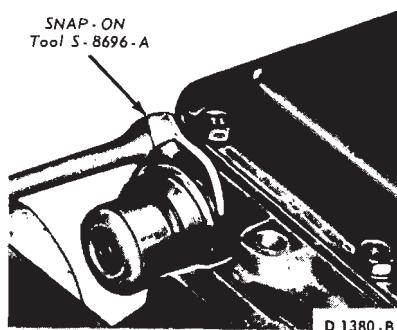

FIG. 27—Removing Vacuum Unit—C4 Automatic
2. On a C4 automatic transmission, remove the transmission vacuum unit with the tool shown in Fig. 27.